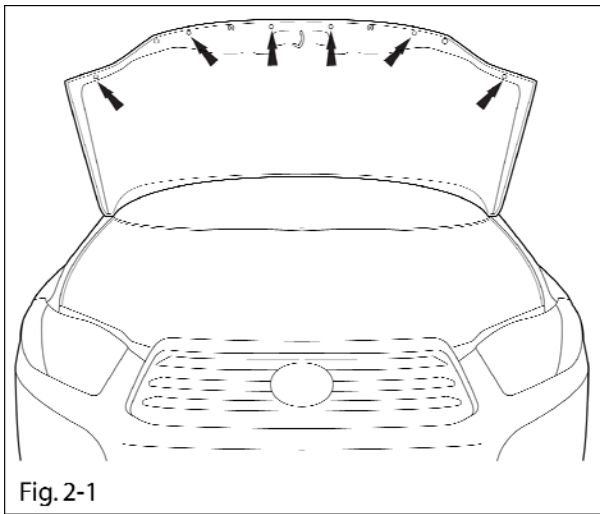

Fig. 2-1
- (a) Locate the proper six holes underneath the front edge of the hood. These will be utilized to attach the brackets. (Fig 2-1)